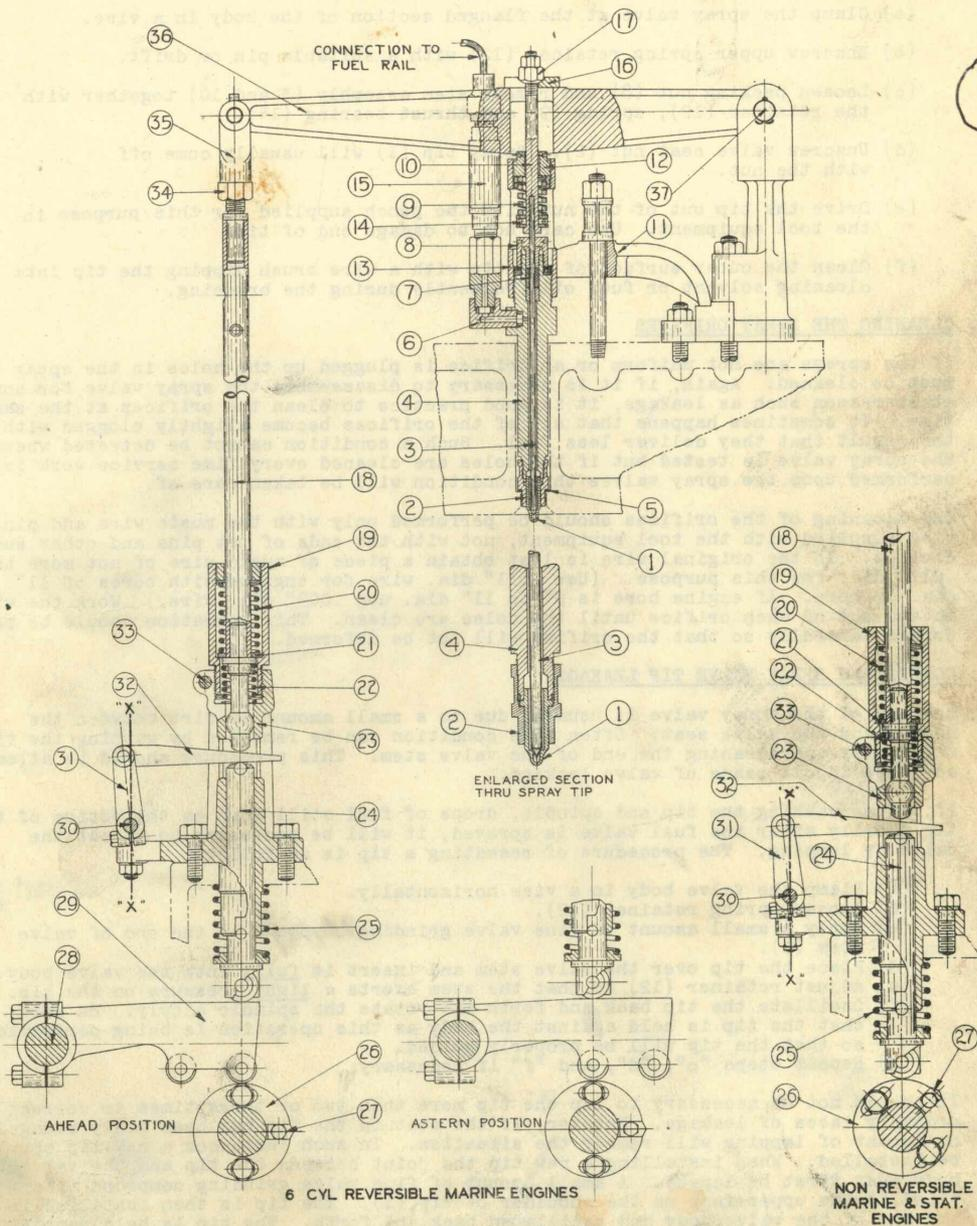

FIG. 0-3
Referring to Fig. 0-3, spring (9) must be adjusted to a certain tension in order to assure proper functioning of the spray valve. It is further important that the adjustment of all the spray valve springs be the same or that the "lift" on all the spray valves be the same. With "lift" as used in the following instructions is understood the lift which spring (9) will allow before its coils touch each other and prevent further upward movement of the valve stem. (The actual lift when the spray valves are operating in the engine is of course determined by the position of fuel wedge (32), the adjustment on pushrod (18) and cam (27). This actual lift is less than the "lift" as defined in this paragraph.) Proceed as follows to assemble the valve and adjust for proper "Lift" (or opening tension):
- (a) Wet spindle (3) with clean fuel oil and slip it into position in the valve body.
- (b) Clean the spray valve tip and install it carefully on the valve body. Tighten valve seat nut (2) securely.
- (c) Screw down on spring retainer (12) carefully until the coils of spring (9) just touch. Be careful not to screw down so hard that valve stem (3) bends, rendering it useless. It is best to have the valve in the test stand when performing this operation and determine when spring (9) becomes solid by means of the test handle. When it is not possible to lift the spray valve stem by means of the test handle the spring coils are touching. The "Lift" is then zero.
- (d) Unscrew spring retainer (12)  $3/4$  to  $7/8$  turns which will make the "lift"  $1/16$ ". The "lift" on all the valves should be between  $1/16$ " and  $5/64$ ".
- (e) Screw down on packing nut (8) until it is just finger-tight.
The spray valve is installed in the engine in the reverse order of its removal. Again referring to Fig. 0-3, if copper gasket (5) is in the cylinder head merely lower the valve into position. If the copper gasket (5) was removed with the valve, the gasket can be held in position on the lower end of the valve by a thin coating of grease applied to the washer.
16. SPRAY VALVE OPERATING MECHANISM (See Fig. 0-3)
Motion of the lifter is transmitted to the pushrod through wedge (32). As can readily be seen in Fig. 0-3, moving the wedge inward will decrease the gap between the lifter and the pushrod. Consequently the spray valve will open sooner, will lift higher, and will close later. Moving the wedge outward produces the opposite re-